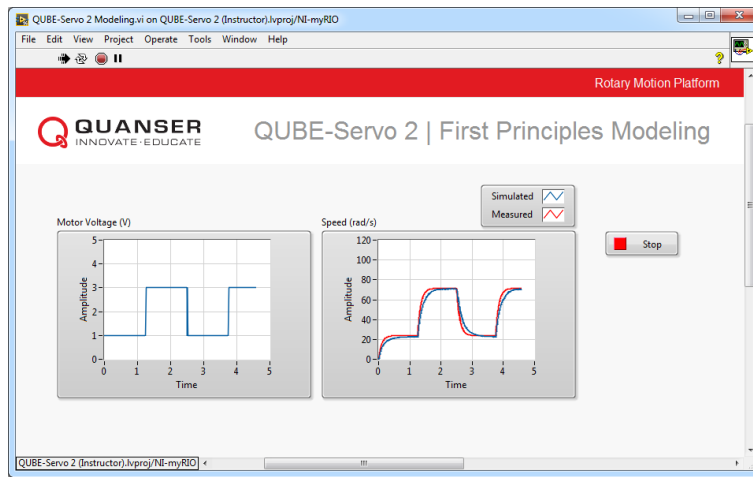

Figure 2.2: QUBE-Servo 2 Measured and Simulated Responses
3. Run the VI with your QUBE-Servo 2 model. The waveform chart response should be similar to Figure 2.2. Attach a screen capture of your waveform charts. Does your model represent the QUBE-Servo 2 well? Explain.